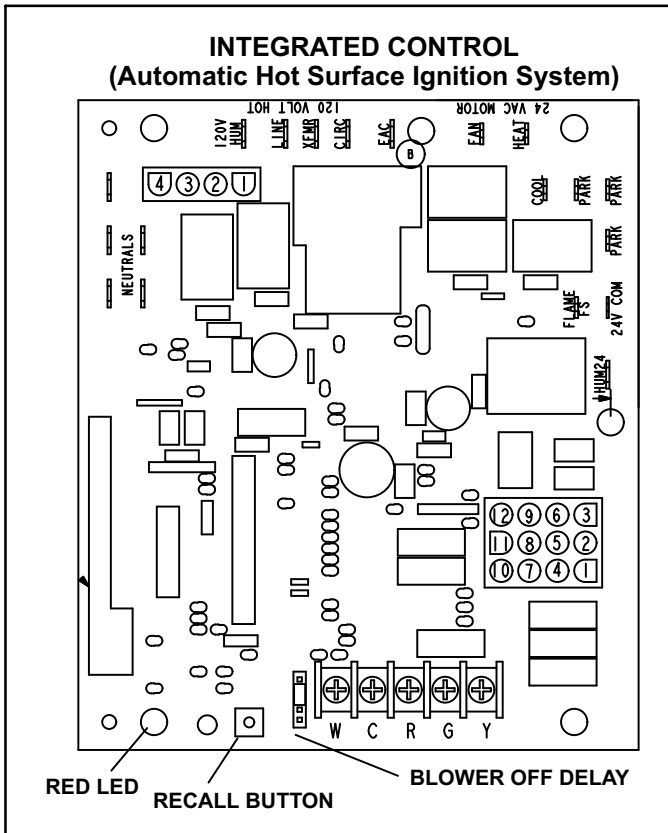
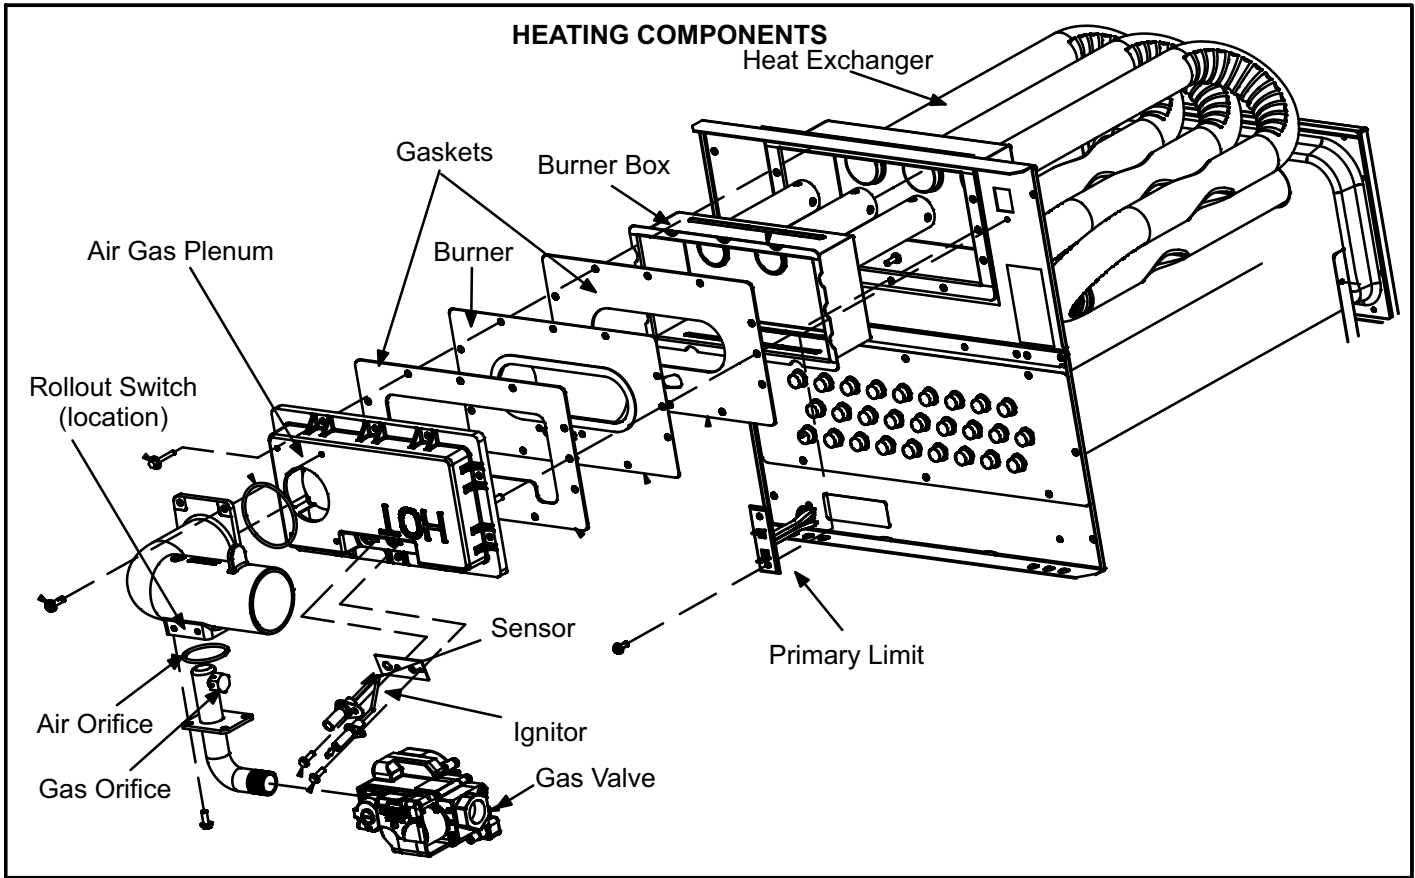

FIGURE 3
FIGURE 5
The hot surface ignition control system consisting of an integrated control (figure 3 with control terminal designations in tables 1, 2 and 3), sensor and ignitor (figure 5). The integrated control and ignitor work in combination to ensure furnace ignition and ignitor durability. The integrated control, controls all major furnace operations. The integrated control also features a RED LED for troubleshooting and two accessory terminals rated at (1) one amp. See table 4 for troubleshooting diagnostic codes. The nitride ignitor is made from a non-porous, high strength proprietary ceramic material that provides long life and trouble free maintenance.
1. Thermal Switch (Figure 5)
Burners are factory set and require no adjustment. Always operate the unit with air gas plenum in place. The burner has one orifice located between the gas valve and the air intake assembly (Figure 5). To check or replace the orifice remove the black iron inlet pipe from the gas valve then remove the four screws securing the gas valve to the intake air pipe. The orifice is located in the orifice housing. The burner uses an orifice (see Table 16) that is precisely matched to the burner input. The burner can be removed for service. If burner has been removed, it is critical to replace all gaskets.
5. Flame Sensor (Figure 5)
6. Ignitor (Figure 5)